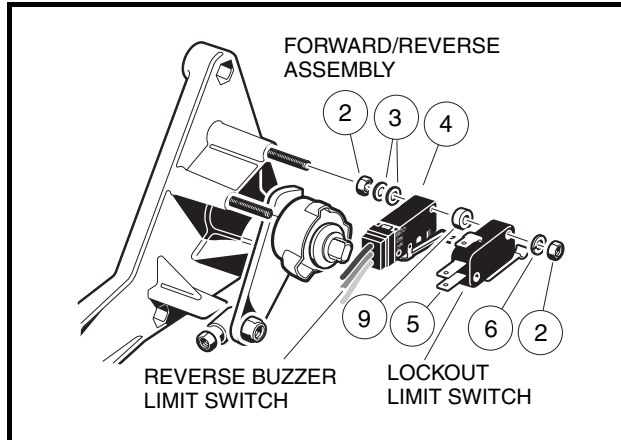

Figure 12-20 Lockout Cam and Reverse Buzzer Limit Switches
3. Disconnect the wires from the lockout cam limit switch (5) located on the back of the Forward/Reverse shifter assembly (**Figure 12-20, Page 12-18**).
4. Remove two nuts (2) and washers (6) from the lockout cam limit switch (5) and slide the lockout cam limit switch off of the screws.
1. Install the limit switch (5) with washers (6) and nuts (2) and tighten to 5 in-lb (0.6 N·m) (**Figure 12-20, Page 12-18**). Place the Forward/Reverse handle in REVERSE to make sure that both switches actuate. See following **CAUTION**.
3. Disconnect the wires from the reverse buzzer limit switch (4) located on the back of the Forward/Reverse assembly (**Figure 12-20, Page 12-18**).
4. Remove the nuts (2) and washers (6) from the lockout cam limit switch (5) and slide the lockout cam limit switch off of the screws. Do not disconnect the wires.
5. Remove the spacers (9) from the reverse buzzer limit switch (4) and slide the reverse buzzer limit switch off the screws.
4. Connect the orange wire to the black wire (COM) terminal and the red/white wire to the blue wire, normally open (NO) terminal of the reverse buzzer limit switch (4) (**Figure 12-20, Page 12-18**).